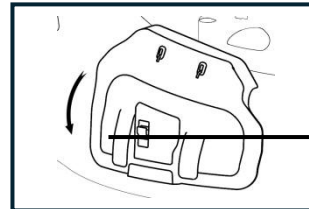

FIG 7C
7.1.2 Make sure the side discharge guard is lowered and securely blocked by the safety lever, as shown in Figure 7C.